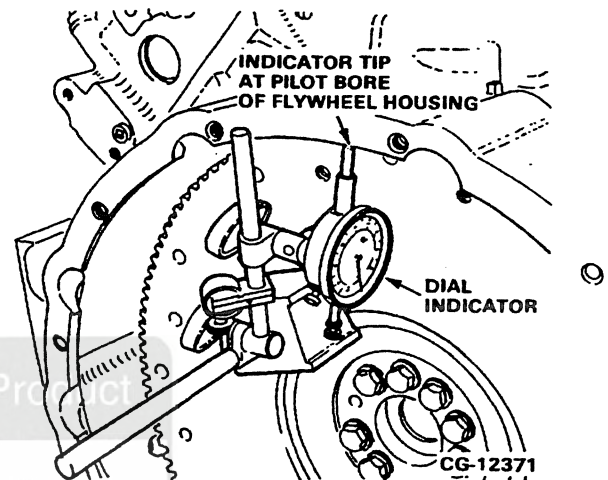

Figure 6.57. Check Flywheel Housing Pilot Bore Concentricity
- a. Attach a magnetic base dial indicator to the flywheel and place the indicator tip against the flywheel housing pilot bore. Refer to Figure 6.57.